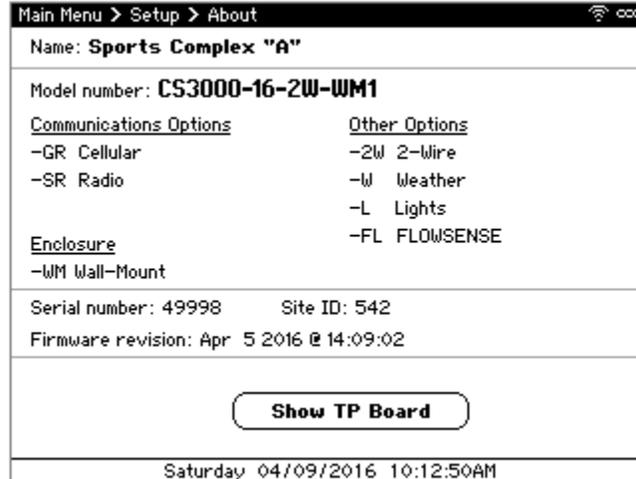

Figure 11 - About screen
2. Navigate to **About** and press **SELECT**. The About screen displays (Figure 11).